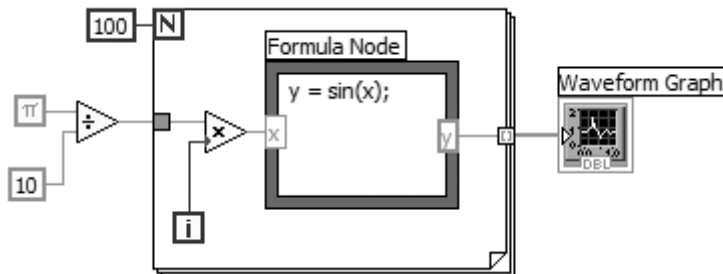

Figure 6.72
2. Build the block diagram shown in Figure 6.72.